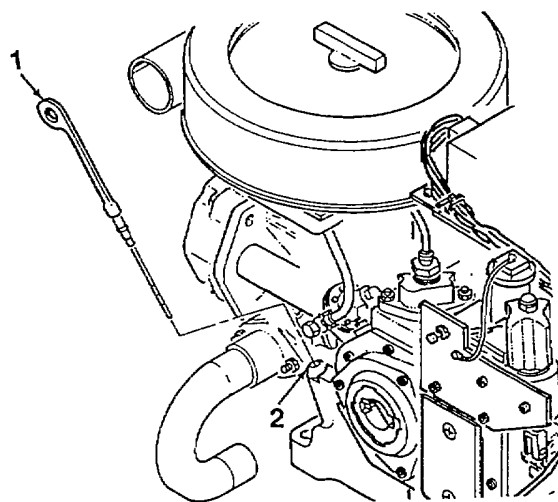

Figure 4-39. Oil Level Dipstick
2. Remove oil level dipstick (1, Figure 4-39) from engine port (2).
1. Insert oil level dipstick (1, Figure 4-39) into engine port (2).